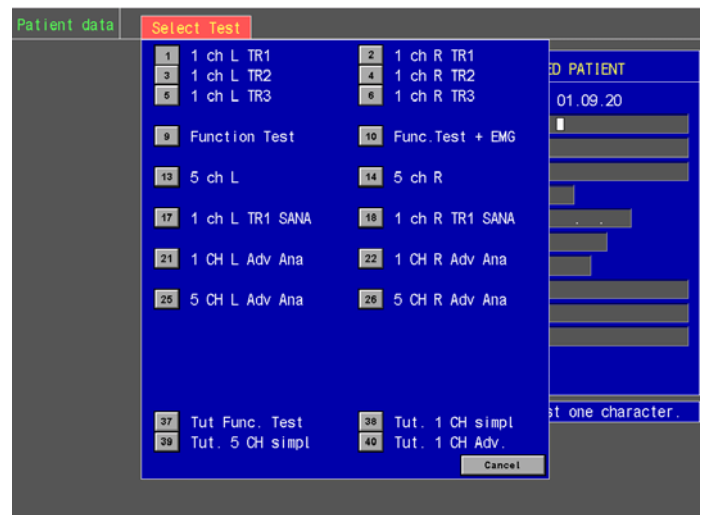

Figure 61 The Select Test Menu
- Click to proceed to the Select Test Menu, see Figure 61 below.
- In the Select Test Menu, click the selectable button number **39** named Tut. 5 CH simpl, see Figure 61 above.